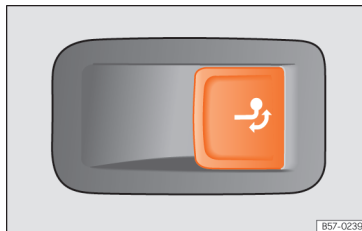

Fig. 213 On the right side of the luggage compartment: button for unlocking the tow hook.
- Pull the »» Fig. 213 button briefly. The tow hook unlocks electrically and automatically turns outwards. The button's control lamp flashes.
- Pull the »» Fig. 213 button briefly. The tow hook unlocks electrically.
- If the warning light on the button »» Fig. 213 → flashes, this means that the tow hook has not been attached properly or is damaged »» ⚠.
- If the warning lamp »» Fig. 213 → remains on with the rear lid open, the tow hook is correctly in place both when extracted and when covered.
- Never press the »» Fig. 213 button when there is a trailer hooked to the vehicle or when a carrier system or other accessories are mounted on the tow hook.